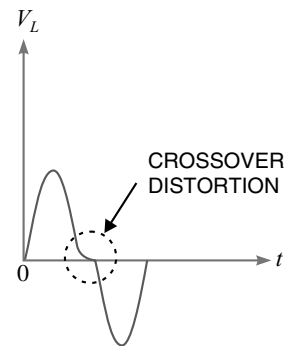

Fig. 10.26
**Crossover distortion.** One disadvantage of class *B* push-pull amplifier is that the waveform of the output voltage ( $V_L$ ) across the load is not perfectly sinusoidal as shown in Fig. 10.26. This is called *\*crossover distortion* and refers to the fact that during the signal crossover from positive to negative (or *vice-versa*), there is some non-linearity in the output signal. The reason for this distortion is that the transistors do not begin to conduct until the input base-emitter voltage is about 0.7 V for a silicon transistor or 0.5 V for a germanium transistor. The crossover distortion can be reduced or eliminated in a class *B* push-pull amplifier by biasing each transistor at a level slightly *above* cut-off instead of being biased at cut-off. By biasing both transistors slightly above cut-off allows the amplifier to provide a linear output that contains no distortion.